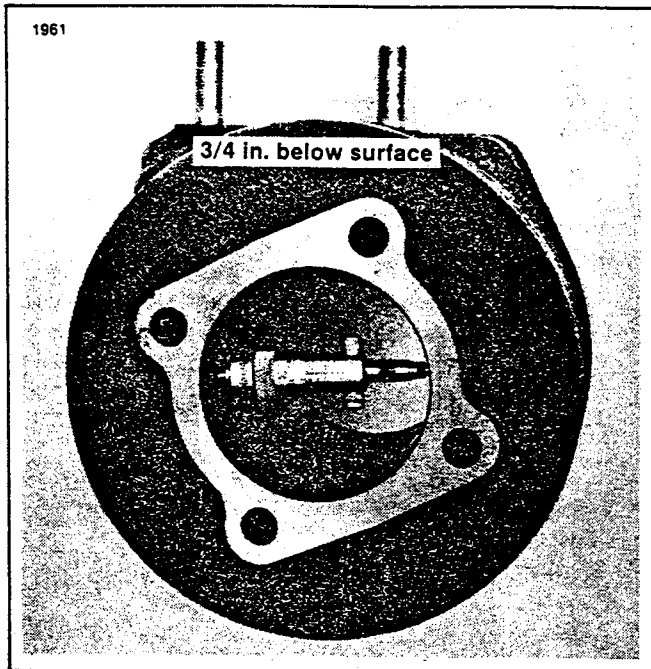

Figure 5-9. Measuring Cylinder
2. See Figure 5-9. Take cylinder bore measurement 3/4 in. from top of bore, measuring from front to rear, then left to right. Record the measurements.